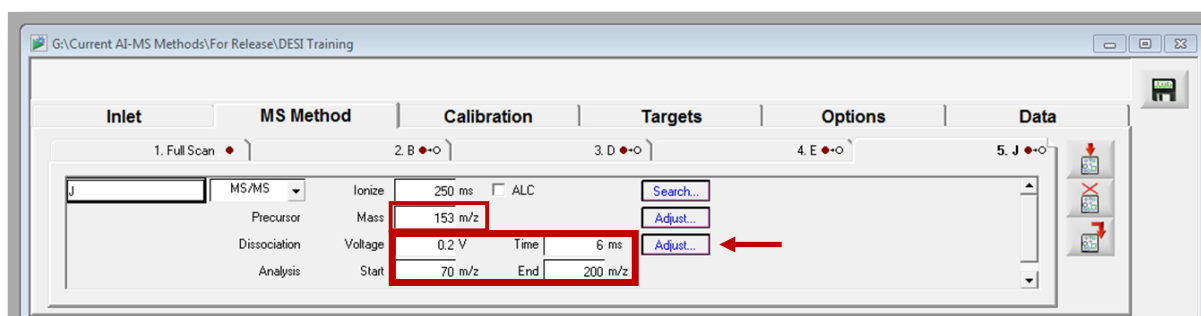
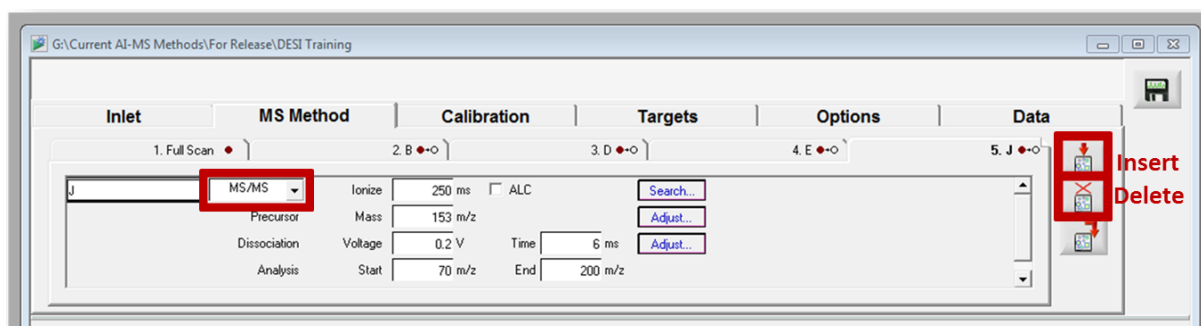

Figure 4.21 – MS Method tab
Figure 4.22 – Selecting, inserting, or deleting an MS/MS scan.
- Proceed to the “MS Method” tab (Figure 4.21).
The “MS Method” tab is where the main scan (MS full scan) and MS/MS scans are created through the input of compound-specific settings. Settings that are often altered for specific compounds are the mass, voltage, time, mass range (start/end), and frequency (obtained by the compound specific macro, see Section 4.2). The frequency can be accessed under the bottom “Adjust” button (Figure 4.21). Other MS/MS scans be added or removed by clicking the “Insert New Scan” or “Delete Scan” buttons. If inserting a new MS/MS scan, “MS/MS” must also be selected on the left of the screen (Figure 4.22). There can be a total of 30 scans for each method (1 main MS scan + 29 target MS/MS scans).